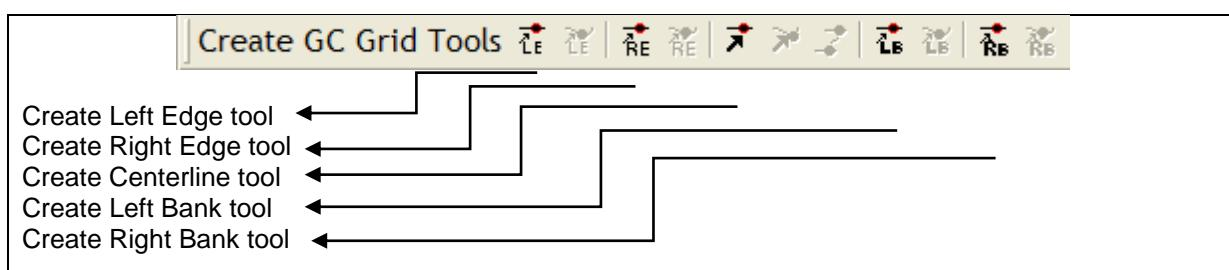

Figure 3.5.2.2 The Create GC Grid Tools. These tools are used to define the shape and extent of the general coordinate grid.
Select **Grid/Mesh->2D General Coordinate Grid** from the menu. This will activate the general coordinate grid generating tools located in the Create GC Grid toolbar (Figure 3.5.2.1).
Figure 3.5.2.1 Notice that the **Grid and Input Condition** and the **Create Gen. Coord Grid** branches in the Control bar are turned on and in the Create GC Grid Tools two buttons have been activated.
The following steps will illustrate how to create a general coordinate grid using the tools provided in iRIC. All the tools used are located in the Create GC Grid Tools toolbar (Figure 3.5.2.2). When the mouse is placed over any toolbar button, the status bar at the bottom of the iRIC interface contains information about that button.
- Create Left Edge Line:** Create a left edge line from upstream to downstream, in this case from upper right to lower left. Select the Create Left Edge tool and use the left mouse button to define individual points creating a line that defines the left edge of the model domain, finishing the left edge line by selecting Enter. Left and right are defined relative to looking downstream. The resulting left edge line should look like that in Figure 3.5.2.3, beginning well upstream and ending well downstream of the measured topography. To zoom or pan
- B. **Create Right Edge, Left Bank and Right Bank lines:** Repeat the process for creating the left edge line as above for the Right Edge, Left Bank, and Right Bank lines. Use Figure 3.5.2.3 and 3.5.2.4 to guide the placement of individual lines, or use the topography and the background image as a guide.
- C. **Create Centerline:** Create a centerline from upstream to downstream, in this case from upper right to lower left. Select the Create Centerline tool and using the left mouse button select centerline points and finish the centerline by selecting Enter. Your centerline should look like that in Figure 3.5.2.3 and 3.5.2.4. The centerline points must be within the Left Bank and Right Bank lines. From the centerline, cross-sections are drawn perpendicular to the centerline out to the edge of the left and right bank lines.